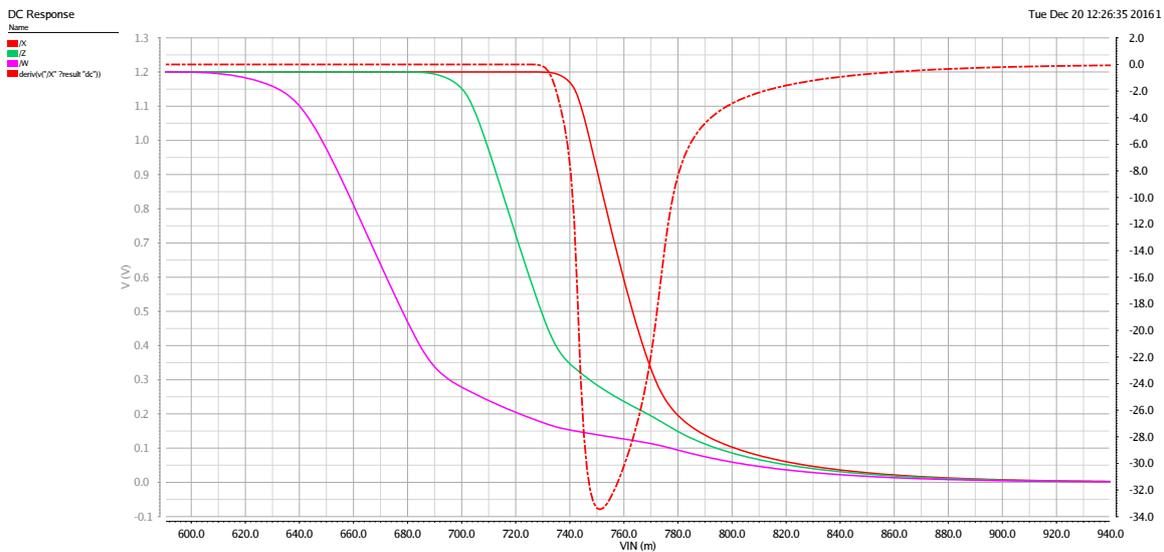

Figure 5.5: Voltage transfer curves (VTC) for the three outputs X, Y and W and the derivative of the VTC for output X.
Figure 5.5 shows the voltage transfer curves for three of the four logical gates in the schematic Figure 3.2 simulated with all transistors having the same widths and with all four inputs, A-D, connected together, so that there is now only one input. The VTCs have been simulated in a DC analysis in Cadence in the usual 65 nm process. For simplicity you can assume that $V_{TN} \approx -V_{TP}$.
- a) Which logical output of Y1-Y4 corresponds to each of the three VTCs named X (red), Y (green) and W (purple) in the graph in Figure 5.5? Motivate! (3 p)
- b) In Figure 5.5 is also a plot of the derivative of the VTC for the X output (the red dash-dotted line). From the data given in Figure 5.5 calculate the noise margin for the X output. The graph in Figure 5.5 is repeated in larger scale in Figure A.1 for your convenience. (3 p)